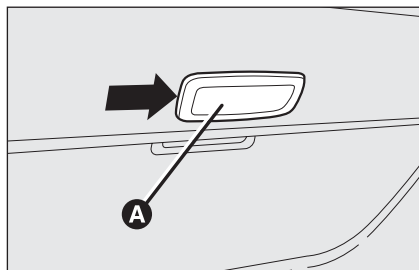

fig. 40
- ☐ remove the light unit **A-fig. 40** levering in the point shown by the arrow;